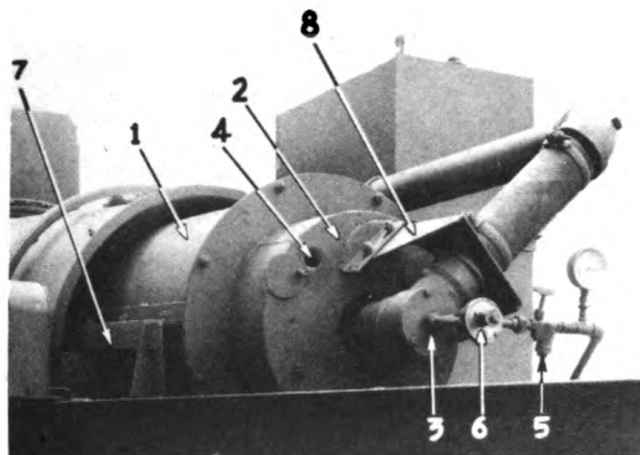

FIGURE 59
THE COMBUSTION CHAMBER (1) (Fig. 59) consists of a refractory-lined steel cylinder mounted at the discharge end of the drum. The COMBUSTION CONE (2) is a smaller steel cylinder, likewise lined with refractory, which is tapered to conform to the shape of the flame. The function of the cone and combustion chamber is to obtain proper burning of the fuel. After a few minutes of operation, the refractory lining in the chamber becomes very hot, causing the spray from the burner (3) to be converted into a gas which burns instantly.
The Hauck low pressure type BURNER (3), (Fig. 59) atomizes the oil and air into a spray which forms the flame for drying the aggregate.